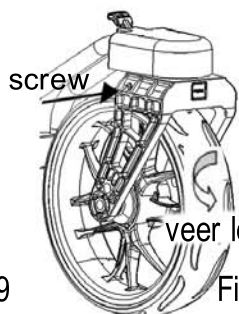

Fig.20
3.If the cart veers to the left, face the front wheel of the cart and use the Allen wrench provided to screw the bolt clockwise until the front wheel is cetenred between the front fork.(Fig.20)